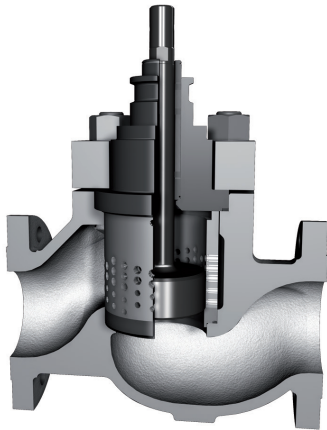

Figure 6: Mark One with CavControl Trim Body Assembly
- 8.1.1 CavControl replaces the standard Mark One retainer with a drilled, stepped-hole retainer, see Figure 6. The plug and bonnet have dimensional differences from the standard Mark One design. Assembly and disassembly of the valve follows the standard procedures.